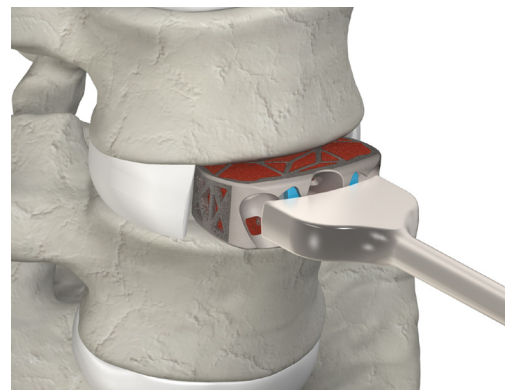

Figure 31
- ▲ Additional implant positioning can be achieved using a tamp (Fig. 31). Two tamps are available in this system: ASTS-SA Tamp (ASTS-SA 100010) and ASTS-SA Guided Tamp (ASTS-SA100011).